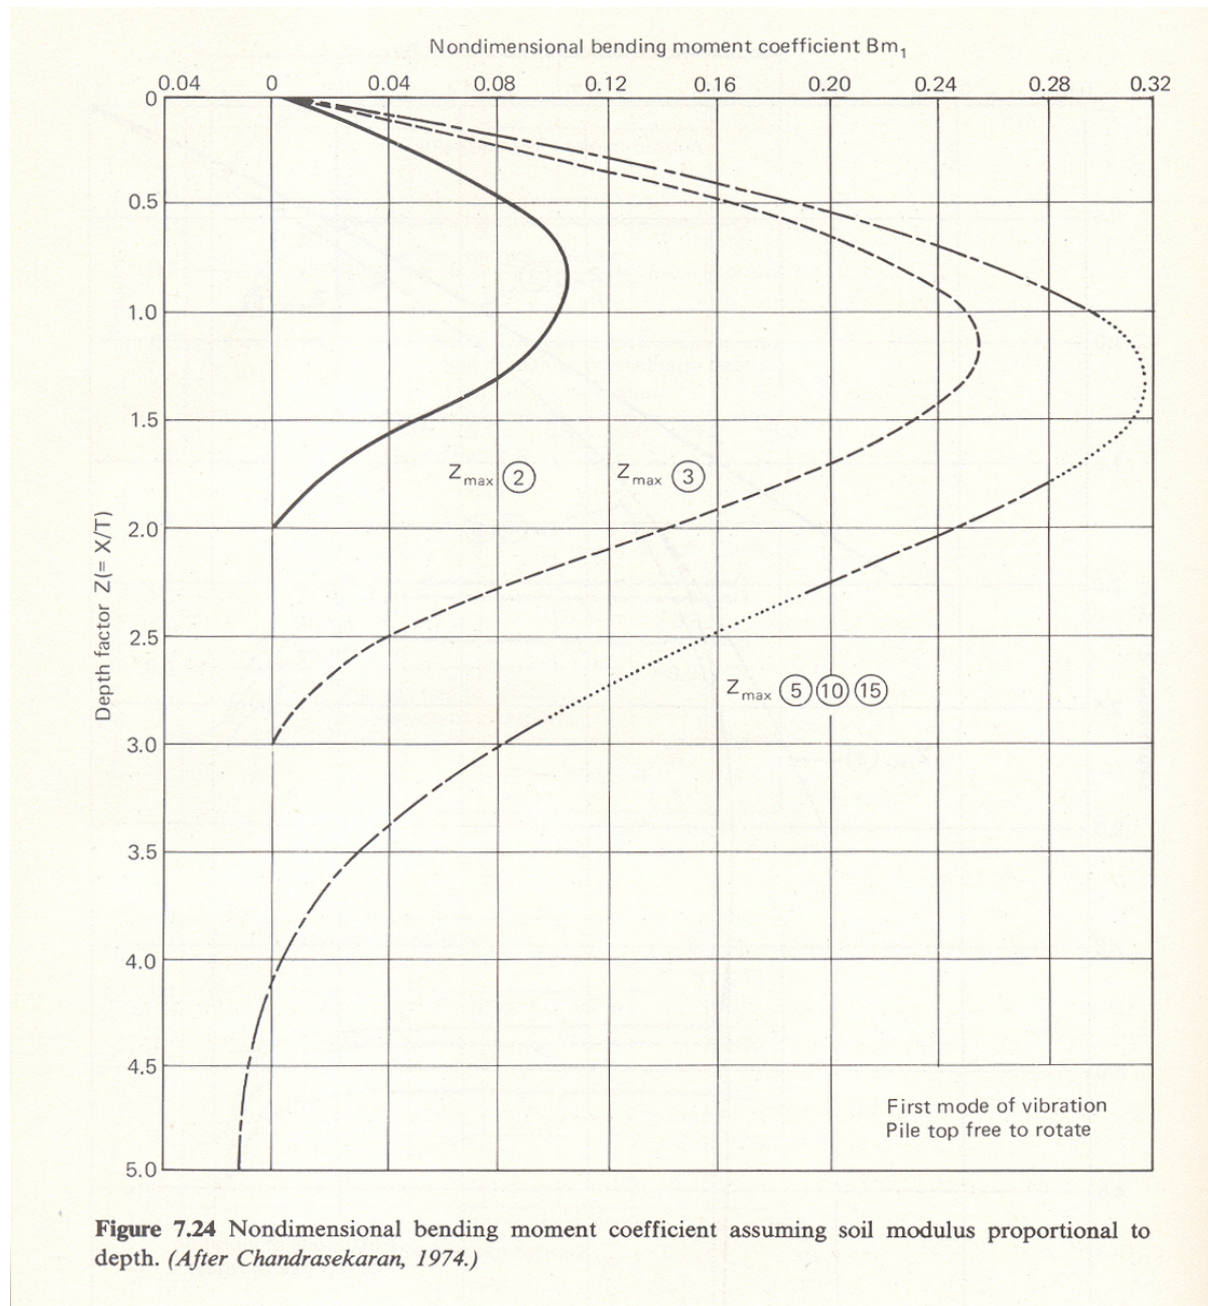

Figure 7.24 Nondimensional bending moment coefficient assuming soil modulus proportional to depth. (After Chandrasekaran, 1974.)
- max. bending moment coefficients (Fig 7.24)